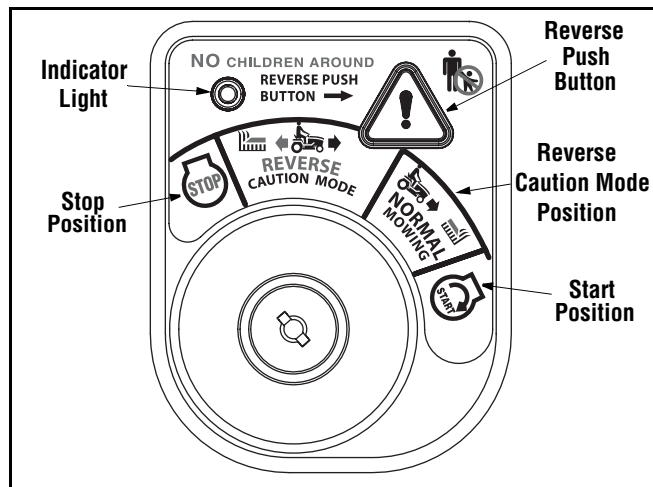

Figure 8
2. Turn the key from the **NORMAL MOWING** (Green) position to the **REVERSE CAUTION MODE** (Yellow) position of the key switch module. See Figure 8.
3. Depress the **REVERSE PUSH BUTTON** (Orange, Triangular Button) at the top, right corner of the key switch module. The red indicator light at the top, left corner of the key switch module will be **ON** while activated. See Figure 8.